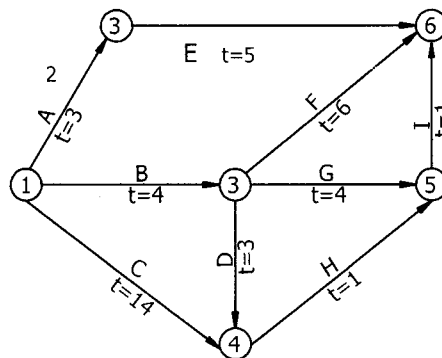

Fig. 1
- Q.1 A 30 cm diameter tube will completely penetrates an unconfined aquifer of depth 40 m. After a long period of pumping at a steady rate of 1500 lpm, the drawdown in two observation wells, 25 m and 75 m from pumping well were found to be 3.5 m and 2.0 m respectively. Determine the transmissivity of aquifer. What is drawdown at pumping well? (40)
- Q.2 250 liters/sec. of water is flowing in a pipe having a diameter of 300 mm. If the pipe is bent by a 135° , find the magnitude and direction of the resultant force on the bend. The pressure of water flowing is 39.24 N/cm^2 . (40)
- Q.3 In a formation of cohesionless soil, the water table is at a depth of 3m. The degree of saturation may be taken as 0.5 on the average void ratio 0.5; grain specific gravity 2.70; angle of internal friction = 30° . Calculate the potential shear strength on a horizontal plane at a depth of 2.5m below the surface. Also calculate the modified value of the shear strength if the table reaches the ground surface. (40)
- Q.4 A strip footing 1 m wide at its base is located at a depth of 0.8 m below the ground surface. The properties of the foundation soil are $\gamma = 18 \text{ kN/m}^3$, $c = 30 \text{ kN/m}^2$, and $\phi = 20^\circ$. Determine the safe bearing capacity, using factor of safety 3.0. If the water table is located at the base of the footing. Considering saturated unit weight of soil as 19.5 kN/m^3 . Find safe bearing capacity using Terzaghi's analysis and assuming that the soil fails by local shear. ($N_c' = 11.8$, $N_q' = 3.9$ and $N_\gamma' = 1.7$) (40)
- Q.5 Explain in detail California Bearing Ratio (CBR) method for the design of Flexible Pavement. (40)
- Q.6 Write the physical, chemical and biological properties of wastewater/sewage and in detail explain with the help of a flow sheet the various units and their role in a basic aerobic wastewater treatment plant. (40)
- Q.7 The network shown in Fig. 1 has the estimated duration for each activity marked. Determine the total float for each activity and establish the critical path. Also determine free float and independent float for each activity. (40)